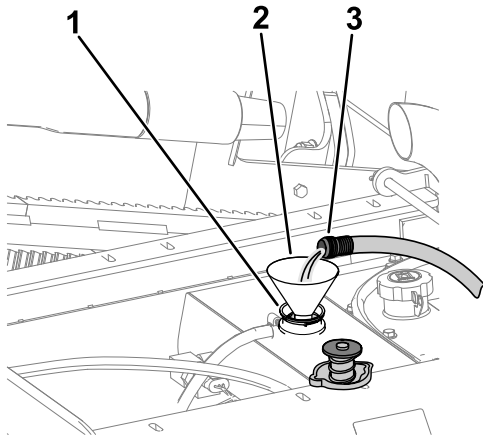

Figure 143
- B. Fill the radiator with clean water (Figure 143).